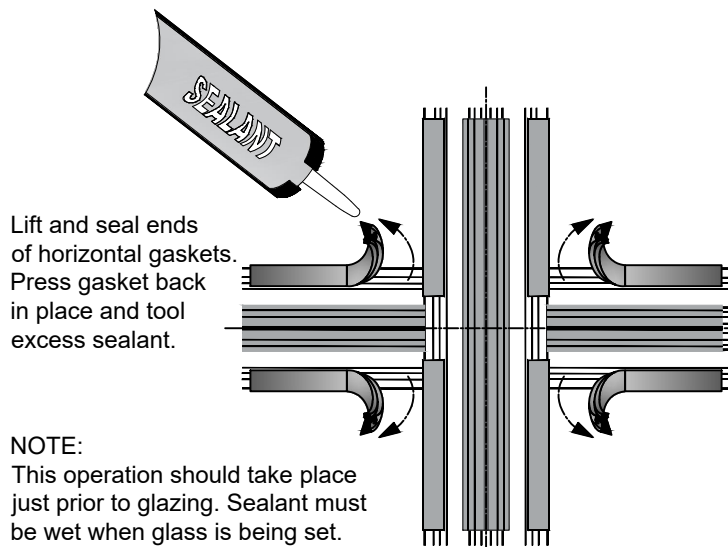

Fig. 44.1
- A. Pull interior horizontal gaskets away from vertical gaskets and seal corners where gaskets abut. Release horizontal gasket back to its original position. See Fig. 44.1.